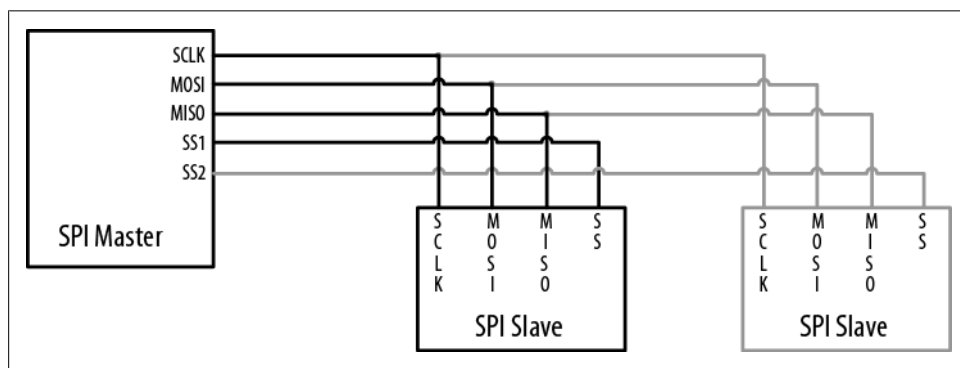

Figure 13-2. Signal connections for SPI master and slaves
Recent Arduino releases (from release 0019) include a library that allows communication with SPI devices. SPI has separate input (labeled “MOSI”) and output (labeled “MISO”) lines and a clock line. These three lines are connected to the respective lines on one or more slaves. Slaves are identified by signaling with the Slave Select (SS) line. Figure 13-2 shows the SPI connections.